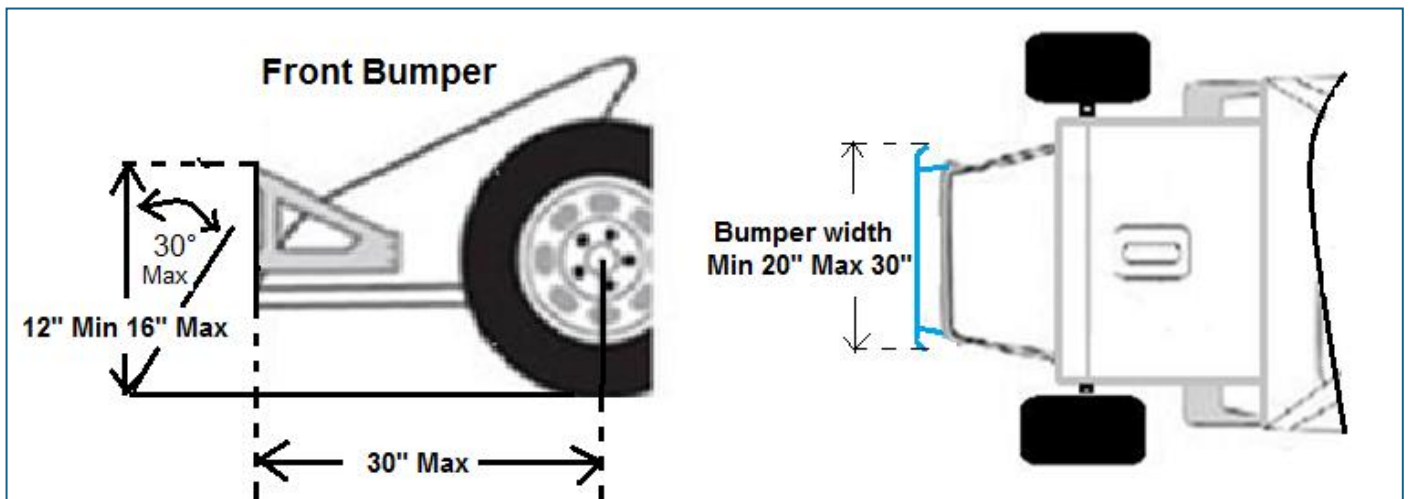

Figure 11
- 16.1** Front bumper maximum width 30 inches and minimum width is 20 inches. Ground to top of bumper must be 12 inches minimum up to 16 inches maximum. Bumper may not extend more than 30 inches forward of the spindle measured from the centre of the front spindle to the outside of front bumper. Front bumpers may have a maximum rake of 30° (*Figure 11*).